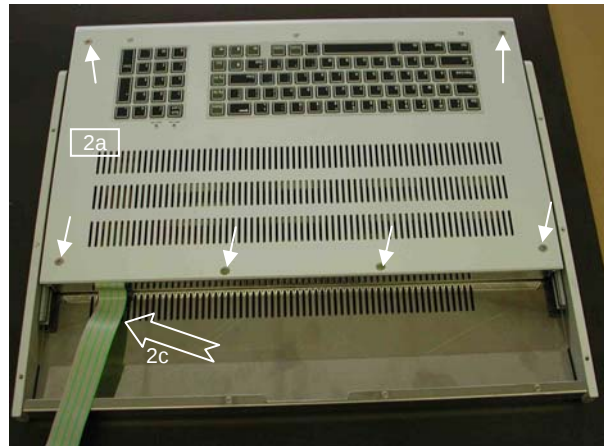

Fig.2 Keyboard drawer
3. Place the drawer onto a flat surface (Fig 2) and remove the keyboard cover with the board with the top and bottom screws (2a)